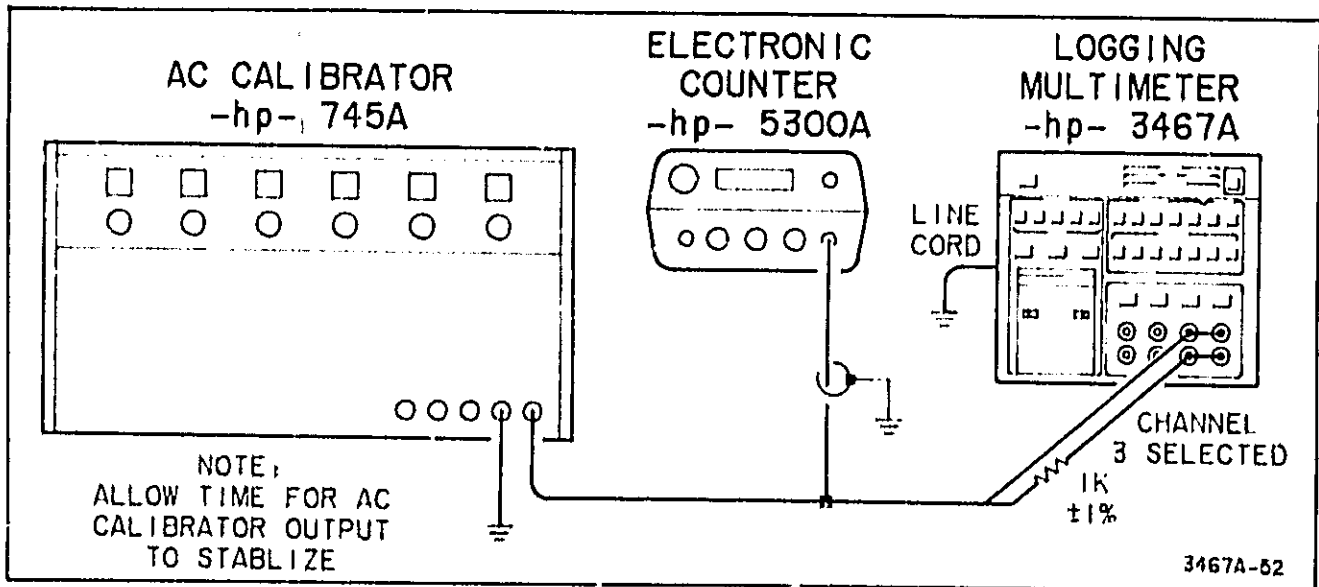

Figure 5-6. AC Common-Mode Rejection Test.
a. Connect the AC calibrator to the electronic counter as shown in Figure 5-6. Do not connect the Logging Multimeter at this time.
d. Connect the AC calibrator between the HI terminal of Channel 3 (resistor still in place) and power line ground. This is shown in Figure 5-6.